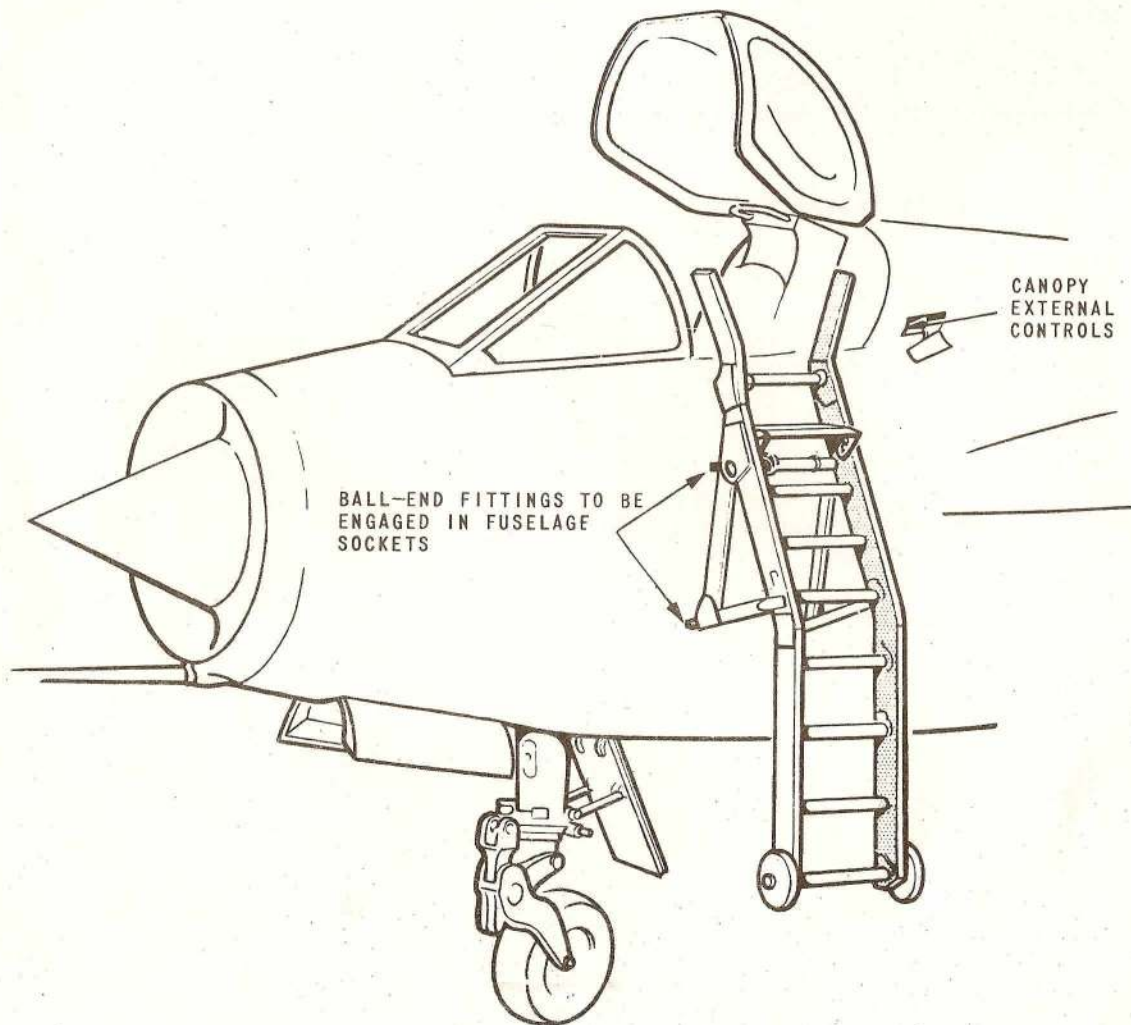
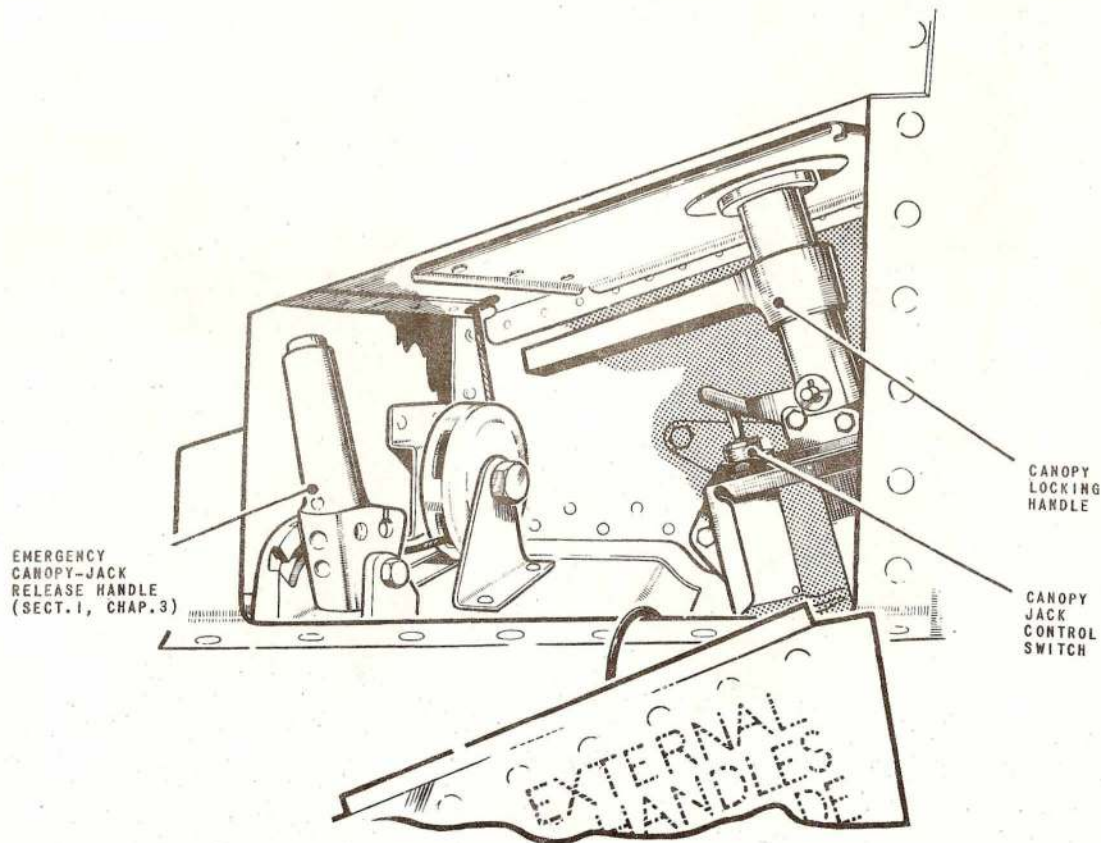
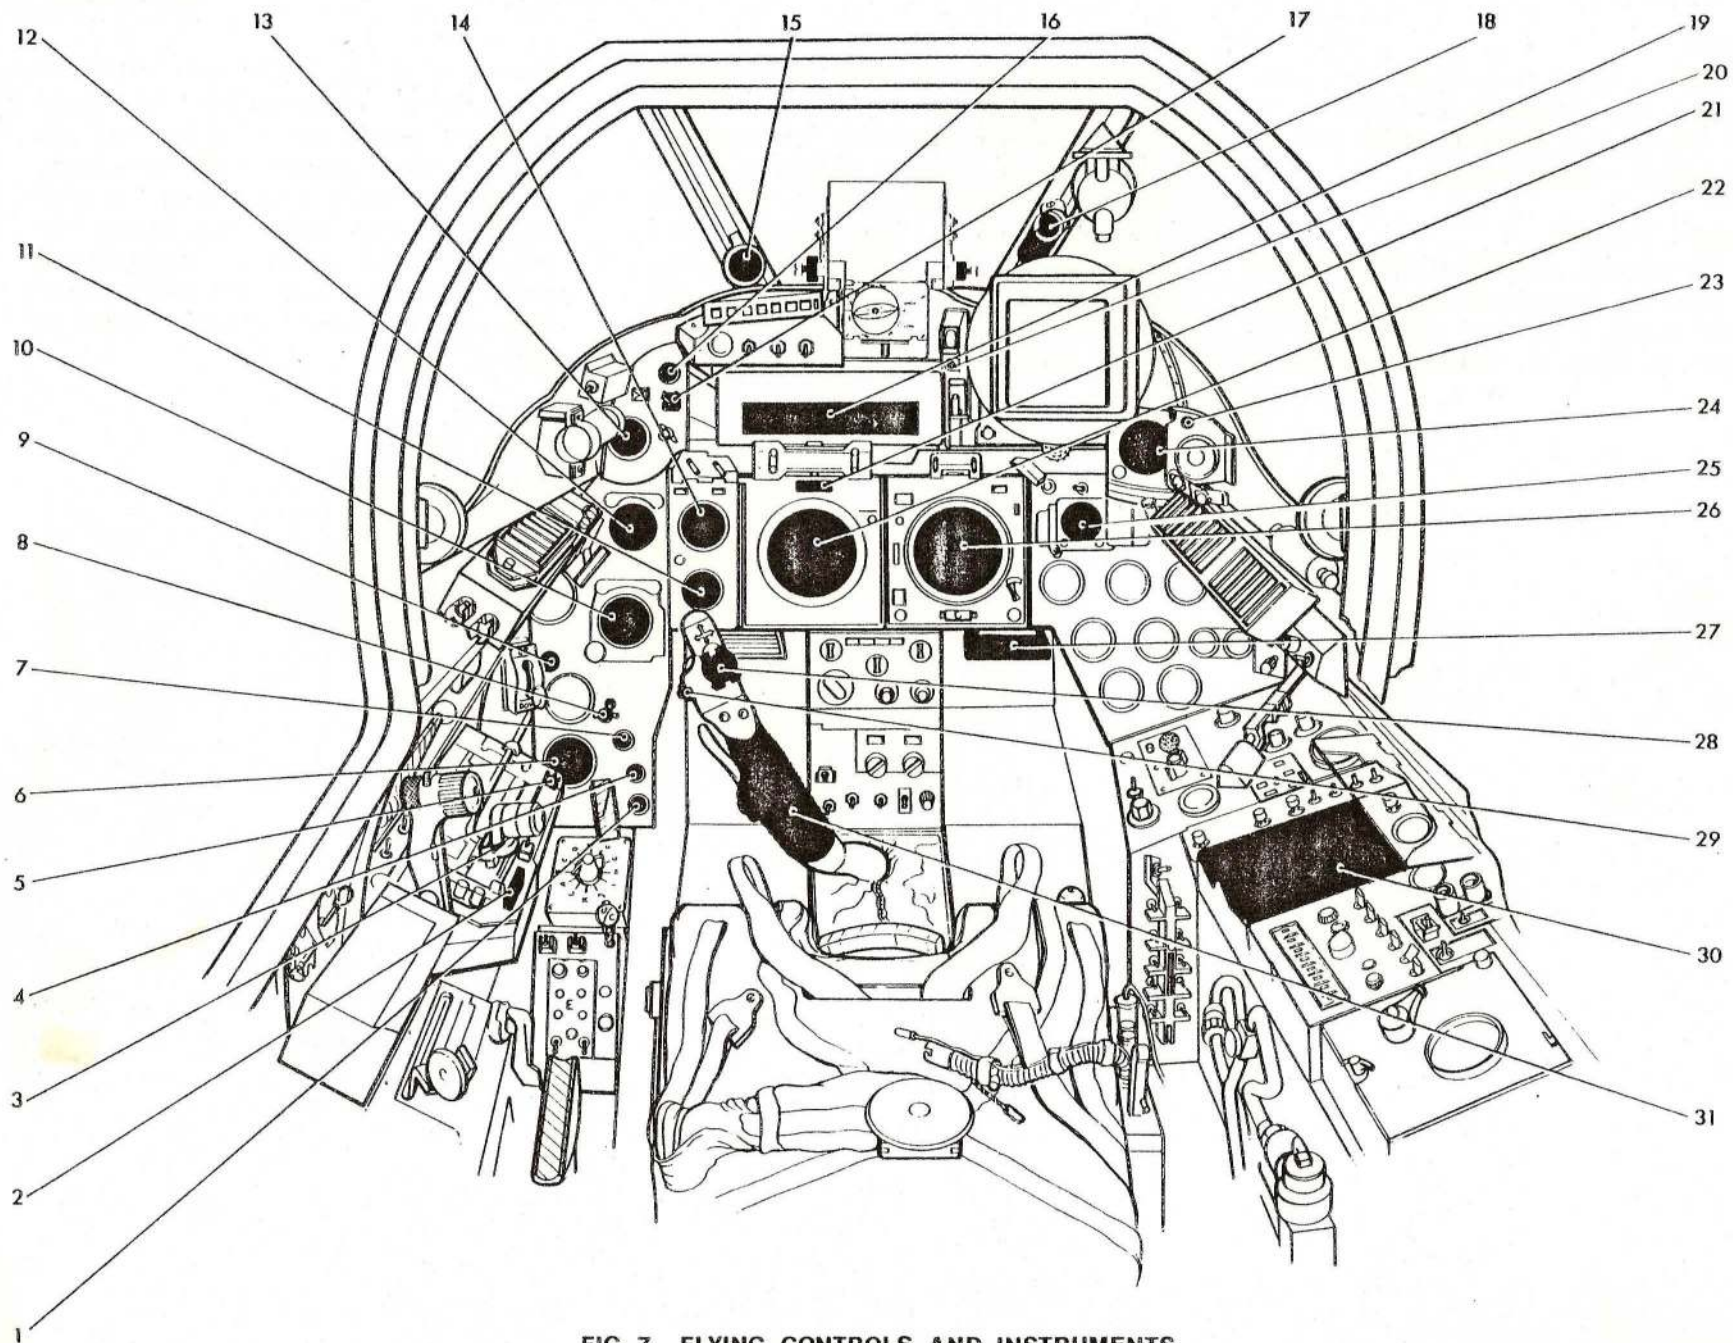

Fig.1. Cockpit access ladder
Fig. 2. Canopy external controls
FIG. 7. FLYING CONTROLS AND INSTRUMENTS
1. Entry to the cockpit is gained by climbing a ladder (*Sect.2, Chap.4, Table 1*), after attaching it to the port side of the front fuselage (*fig.1*) and opening the canopy by operating the external controls (*fig.2*). The ladder pick-up points are indicated by external markings stencilled on the fuselage skin, and the canopy external controls are behind a small detachable panel, similarly identified, in the port side of the spine immediately aft of the cockpit. The canopy is opened (after removing the access panel) by first pulling the black coloured locking-handle outboard then operating the adjacent switch controlling the canopy jack; the locking handle also controls canopy seal inflation. A warning buzzer sounds whenever the canopy switch is operated and a CANOPY warning indicator on the auxiliary warnings panel (*fig.10*) is illuminated while the canopy is unlocked. The canopy can also be closed and locked by the external controls.
6. The controls, instruments and indicators, are grouped upon panels facing the pilot and on port and starboard console panels. The titles given to the panels in the illustration are for reference purposes when reading descriptive matter elsewhere in this Publication. For detailed information on the locations of the controls, instruments and indicators refer to fig.7 to 10 and to Chap.3, fig.2.
KEY TO FIG.7 (FLYING CONTROLS AND INSTRUMENTS)